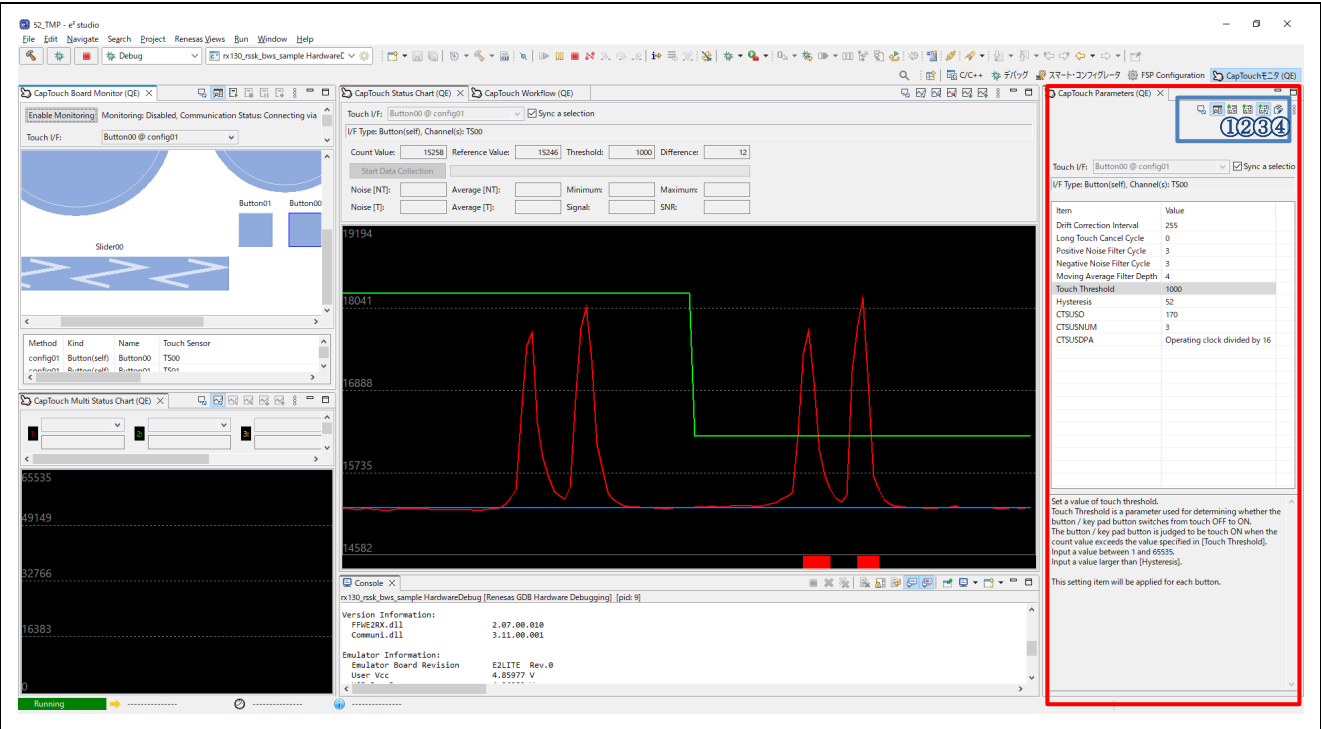

Figure 1-3 Manual Tuning with QE for Capacitive Touch
For Manual tuning with CapTouch parameters, use the "CapTouch Parameters (QE)" in QE for Capacitive Touch (in red box in Figure 1-3). You can change the parameter and check the operation after adjusting it from the "CapTouch Status Chart (QE)" in real time. Parameters adjusted in this view can also be reflected in the source file. Refer to Table 1-2 for explanations of the functions of the "CapTouch Parameters (QE)" tool bar (in the blue frame in Figure 1-3) used when performing manual tuning. Parameters can be read and written to the application via the CapTouch Parameter icons.